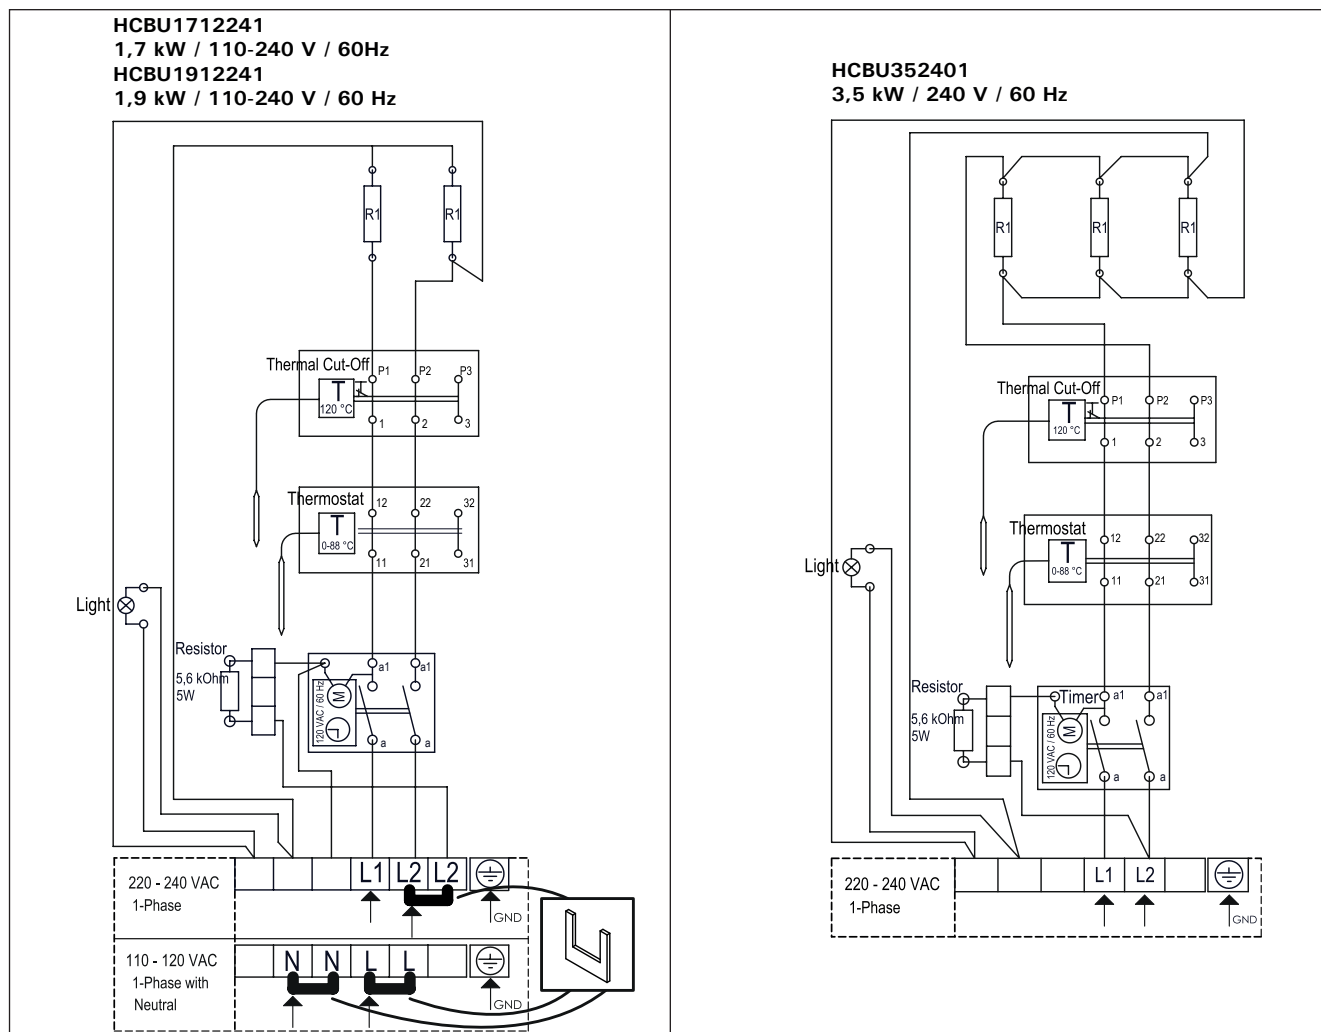

Figure 6. Electrical connections of the heater
2. See applicable wiring diagram for heater model (figure 6). Heater must be permanently installed by using seal tight conduit between the heater and the wall of the sauna room (pigtailed or plugs are not allowed in the sauna room). Wiring must be done by a licensed electrician, who must follow wiring diagram provided and adhere to local codes. Use proper AWG rated wire size and use copper wire suitable for 194 °F (90 °C) within sauna walls. Use grounding terminals provided in sauna heater to properly ground the equipment as per NEC and local codes.